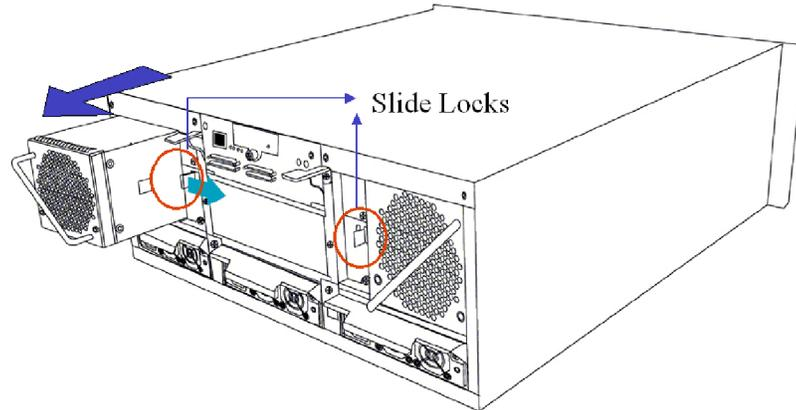

Figure 5-9: Removing the Cooling Module Retention Screws
Step 1. **Remove a cooling module** by pressing the slide lock on the side of the module towards the center of the chassis and then pulling the module out of the chassis. (See *Figure 5-9*)